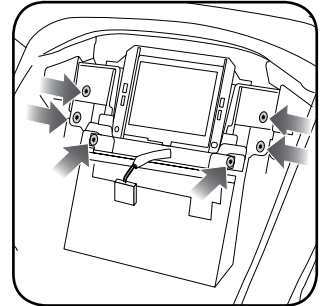

Fig. 1.4
4. Remove four (4) Torx T25 screws holding the screen frame, and two (2) Torx T25 holding the radio body. (Fig. 1.4)